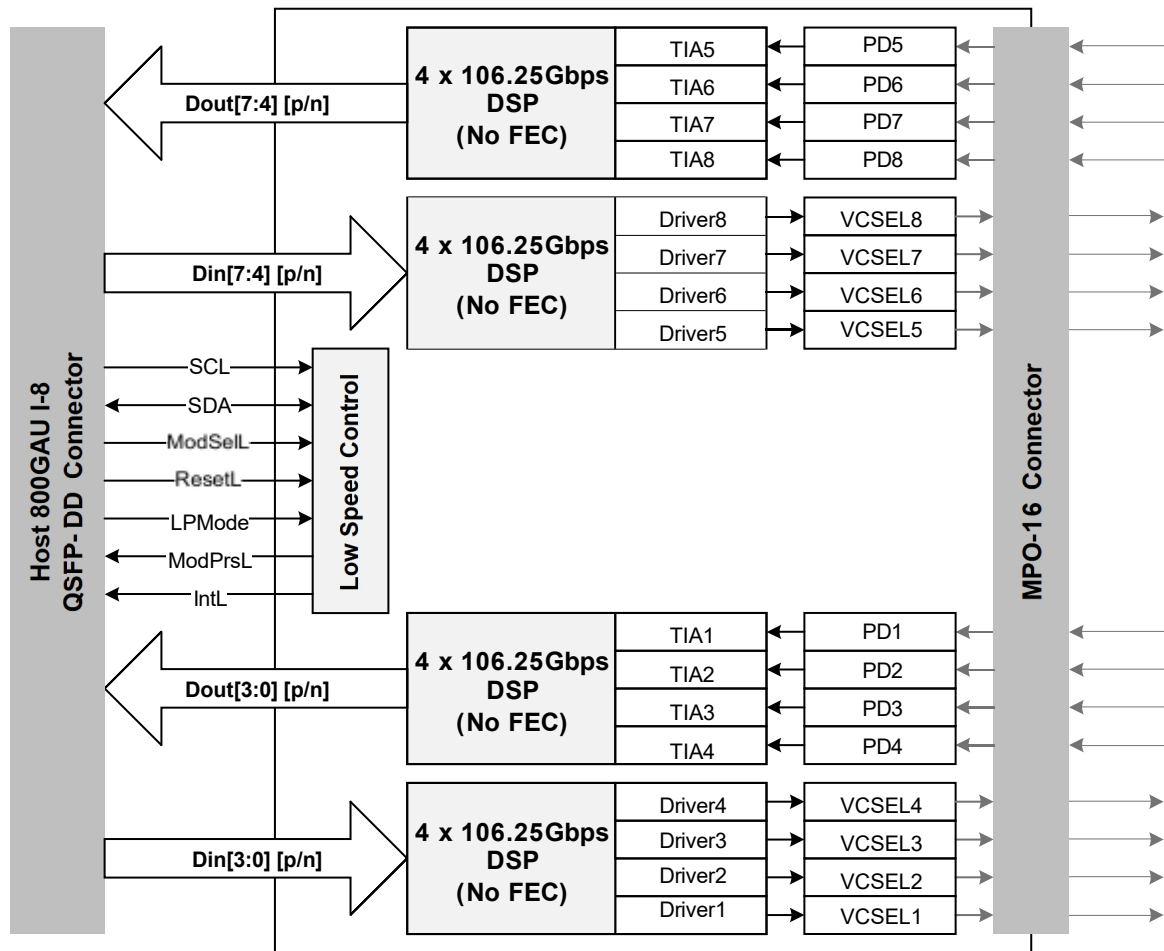

Figure 1: Transceiver Block Diagram
As shown in Figure 1, the optical transmitter portion of the transceiver incorporates an 8x106.25Gbps 800GAUI-8 electrical input with Equalization (EQ) block, two 4-channel laser drivers and multi-mode laser source. The Tx input buffer provides 800GAUI-8 compliant differential inputs.
As shown in Figure 1, the optical receiver portion of the transceiver incorporates eight PIN photodiodes, two 4-channel trans-impedance amplifiers (TIA), integrated 800GAUI-8 compliant electrical output blocks. The Rx output driver provides 800GAUI-8 compliant differential outputs for the high speed electrical interface.